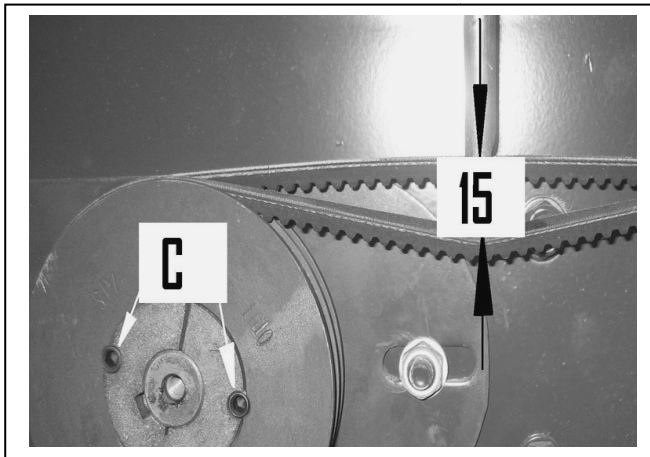

Fig 8
7. Tension on all V-belts must be set at 15mm +, as shown in Fig 8. Excessive belt tension will cause undue hydraulic motor wear. Resulting in loss of power on conveyor bed.
9. Check Allan bolts (C) Fig 8 are tight.